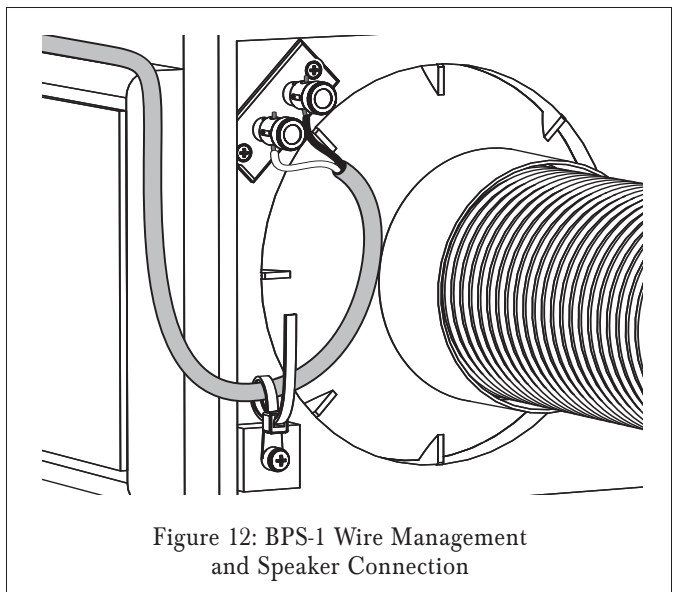

Figure 12: BPS-1 Wire Management and Speaker Connection
2. Pass the speaker wire through the BPS-1's built-in wire tie, and route the wire's end to the speaker connector panel (see *Figure 12*).